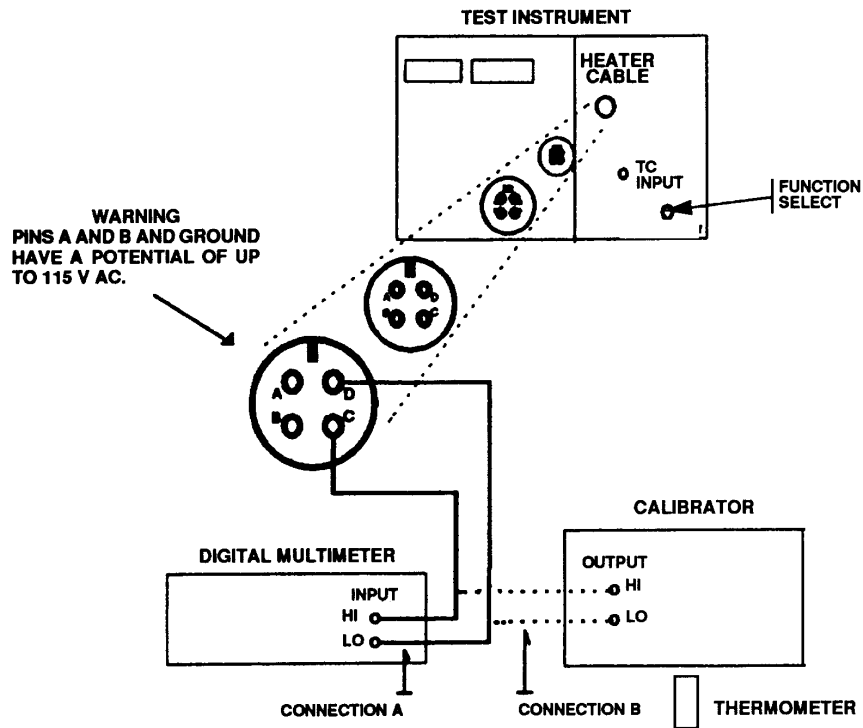
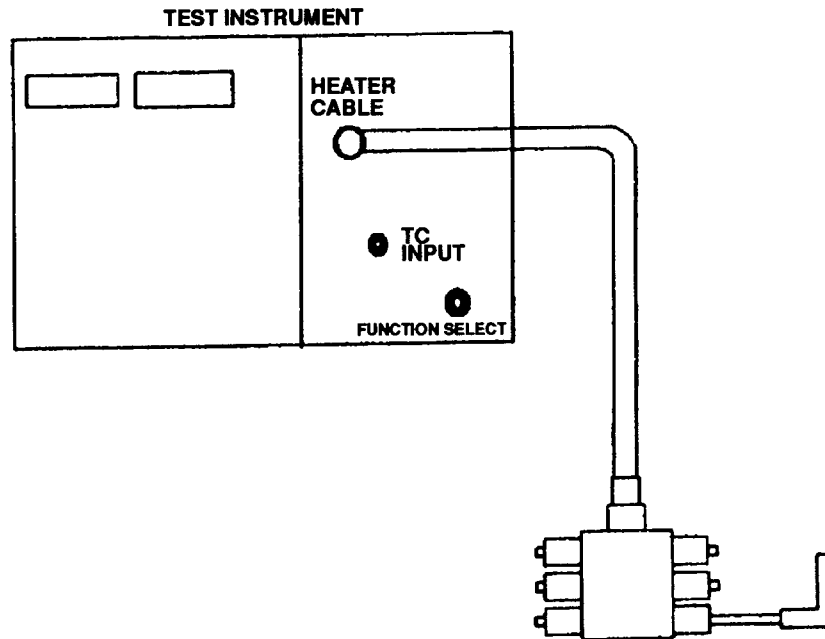

Figure 8. Heater probe.
Figure 9. Heater probe control circuit.
(4) Connect equipment as shown in figure 8, CONNECTION A. Set multimeter for ac voltage measurements.
(5) Reconnect power cable to 115 V ac source and set MASTER POWER switch to ON.
- (6) Multimeter should indicate 0 V ac (± 1.0); if not, verify equipment connection. (Ensure that pins C and D are connected to multimeter.)
- (7) Connect equipment as shown in figure 8, CONNECTION B.
- (8) Set calibrator for an dc millivolt output corresponding to ambient temperature as specified in table 3.
- (9) Set **TEMPERATURE** switch to **HEATER PROBE TEMP SET**.
- (10) Adjust **PROBE CONTROL** until **TEMP °C** indicator displays **100**.
- (11) Reverse leads at calibrator **OUTPUT** terminals.
- (12) Set calibrator for a 4.10 mV dc, less ambient temperature millivolt equivalent, output.
- (13) **PROBE POWER** lamp should be flashing, if not, perform **b (2)** below.
- (14) Adjust **PROBE CONTROL** until **TEMP °C** indicator displays **600**.
- (15) Set calibrator for a 24.91 mV dc, less ambient temperature millivolt equivalent, output.
- (16) **PROBE POWER** lamp should be flashing; if not, perform **b (3)** below.
- (17) Turn **PROBE CONTROL** fully ccw.
- (18) Disconnect calibrator from TI and connect heater probes as shown in figure 9.
- (19) Adjust **PROBE CONTROL** until **TEMP °C** indicator displays **100**.
- (20) Set **TEMPERATURE** switch to **OPERATE**.